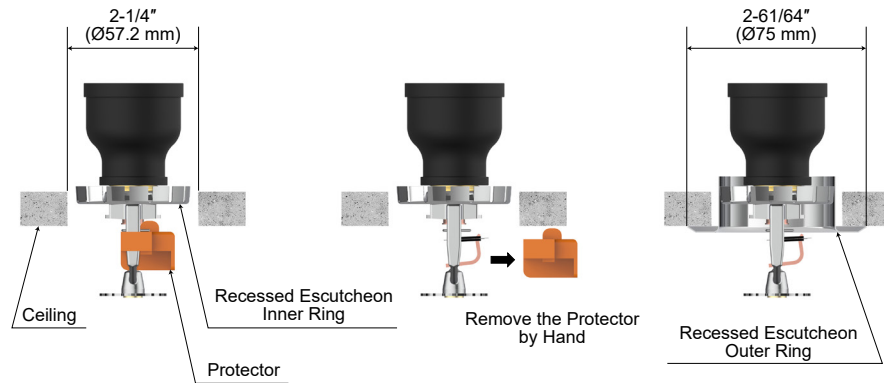

Figure 8: Protector Removal
Step 4: Remove the Protector by hand. (Ref. Figure 8)